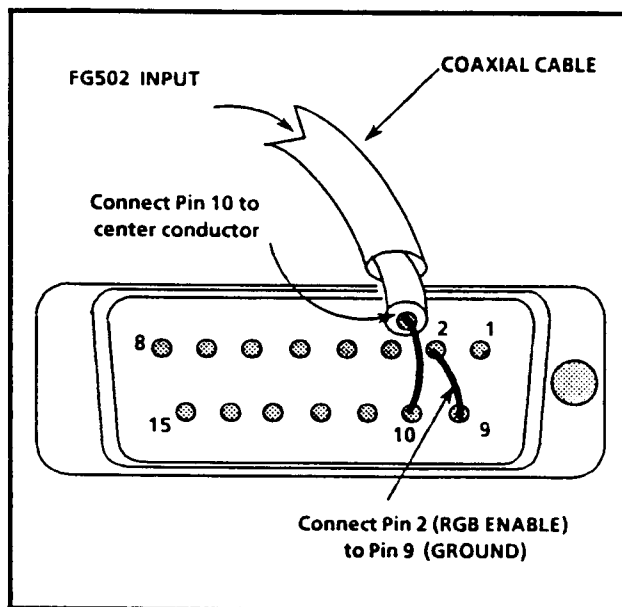

Fig. 5-3. REMOTE connector modified to check RGB operation.
- d. Connect the output of the Function Generator to pin 10 of the REMOTE connector and connect pin 2 (RGB Enable) to pin 9 (Ground) as shown in Fig. 5-3.